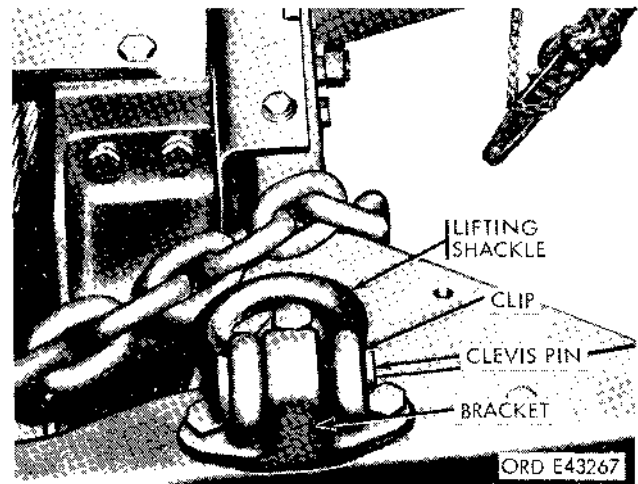

Figure 2-212. Lifting shackle assembly.
(4) *Installation.* Insert the threaded end of the hook in the hole in the mounting bracket (fig. 2-212). Secure the hook to the bracket with a plain washer, slotted nut, and cotter pin. Adjust the pintle hook to 0.003 / 0.017 inch between the plain washer and the mounting bracket, to permit free rotation of the pintle.
(1) *Removal.* Remove the clip securing the clevis pin. Pull the pin out, and remove the shackle (fig. 2-212).
(2) *Installation.* Position the shackle to the bracket. Insert the clevis pin through the shackle and bracket (fig. 2-212). Secure the pin with the clip.